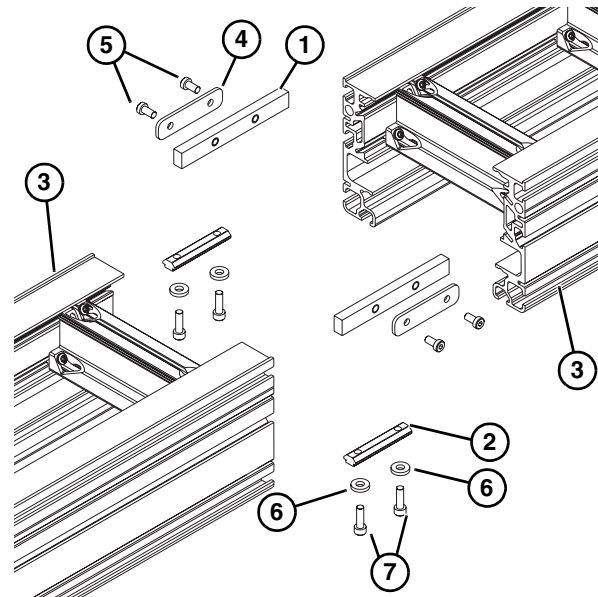

Figure 5
Typical Frame Connecting Components (Figure 5)
2. Install two bar frame connectors (**Figure 5, item 1**) and two drop-in tee bars (**Figure 5, item 2**) into one conveyor section (**Figure 5, item 3**).
3. Join both conveyor sections, and install plate frame connectors (**Figure 5, item 4**), and secure with M6x12 low head cap screws (**Figure 5, item 5**) on both sides. Tighten cap screws to 60 in-lb (7 Nm).
4. Install washers (**Figure 5, item 6**) and M6x20 socket head screws (**Figure 5, item 7**) into drop-in tee bar (**Figure 5, item 2**) on both sides as indicated. (Do not tighten hardware. This is for stand installation.)